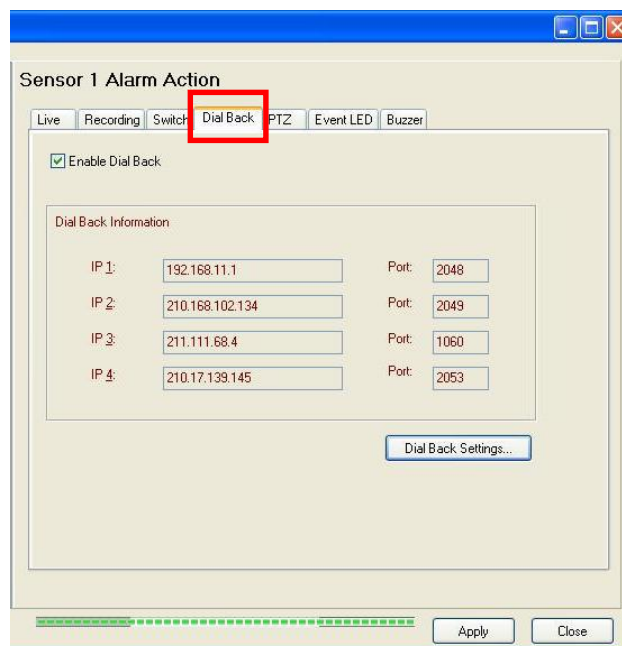

Fig 8.2.4a
Step 1 : In {(Event) Action} panel, click **[Dial Back]** option to set dial back setting as **Fig 8.2.4a**.